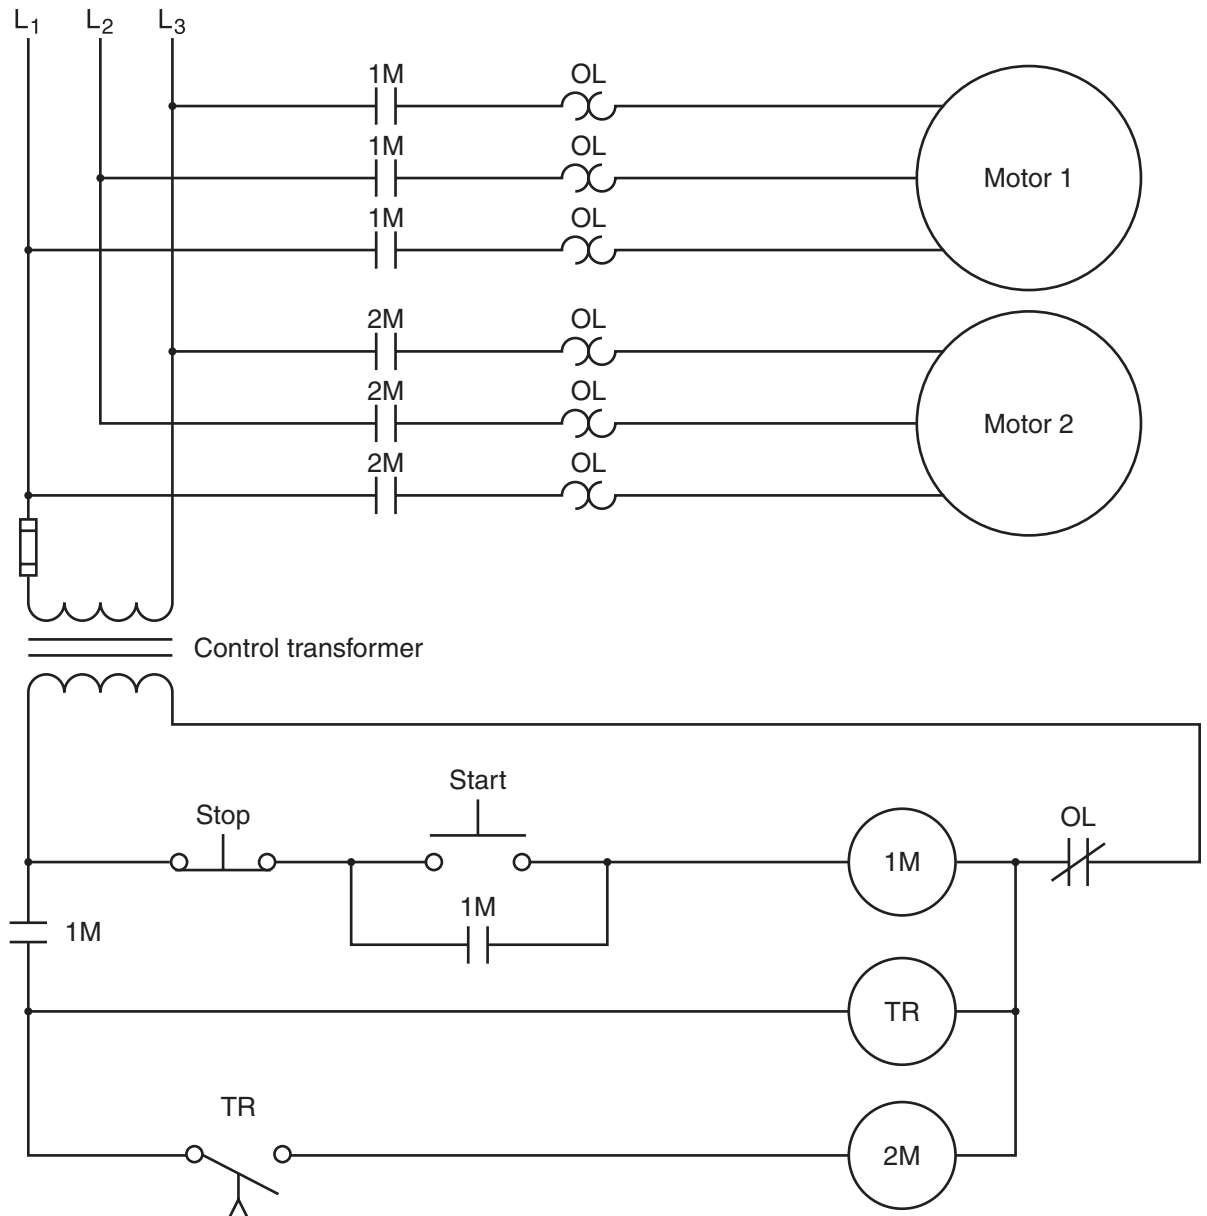
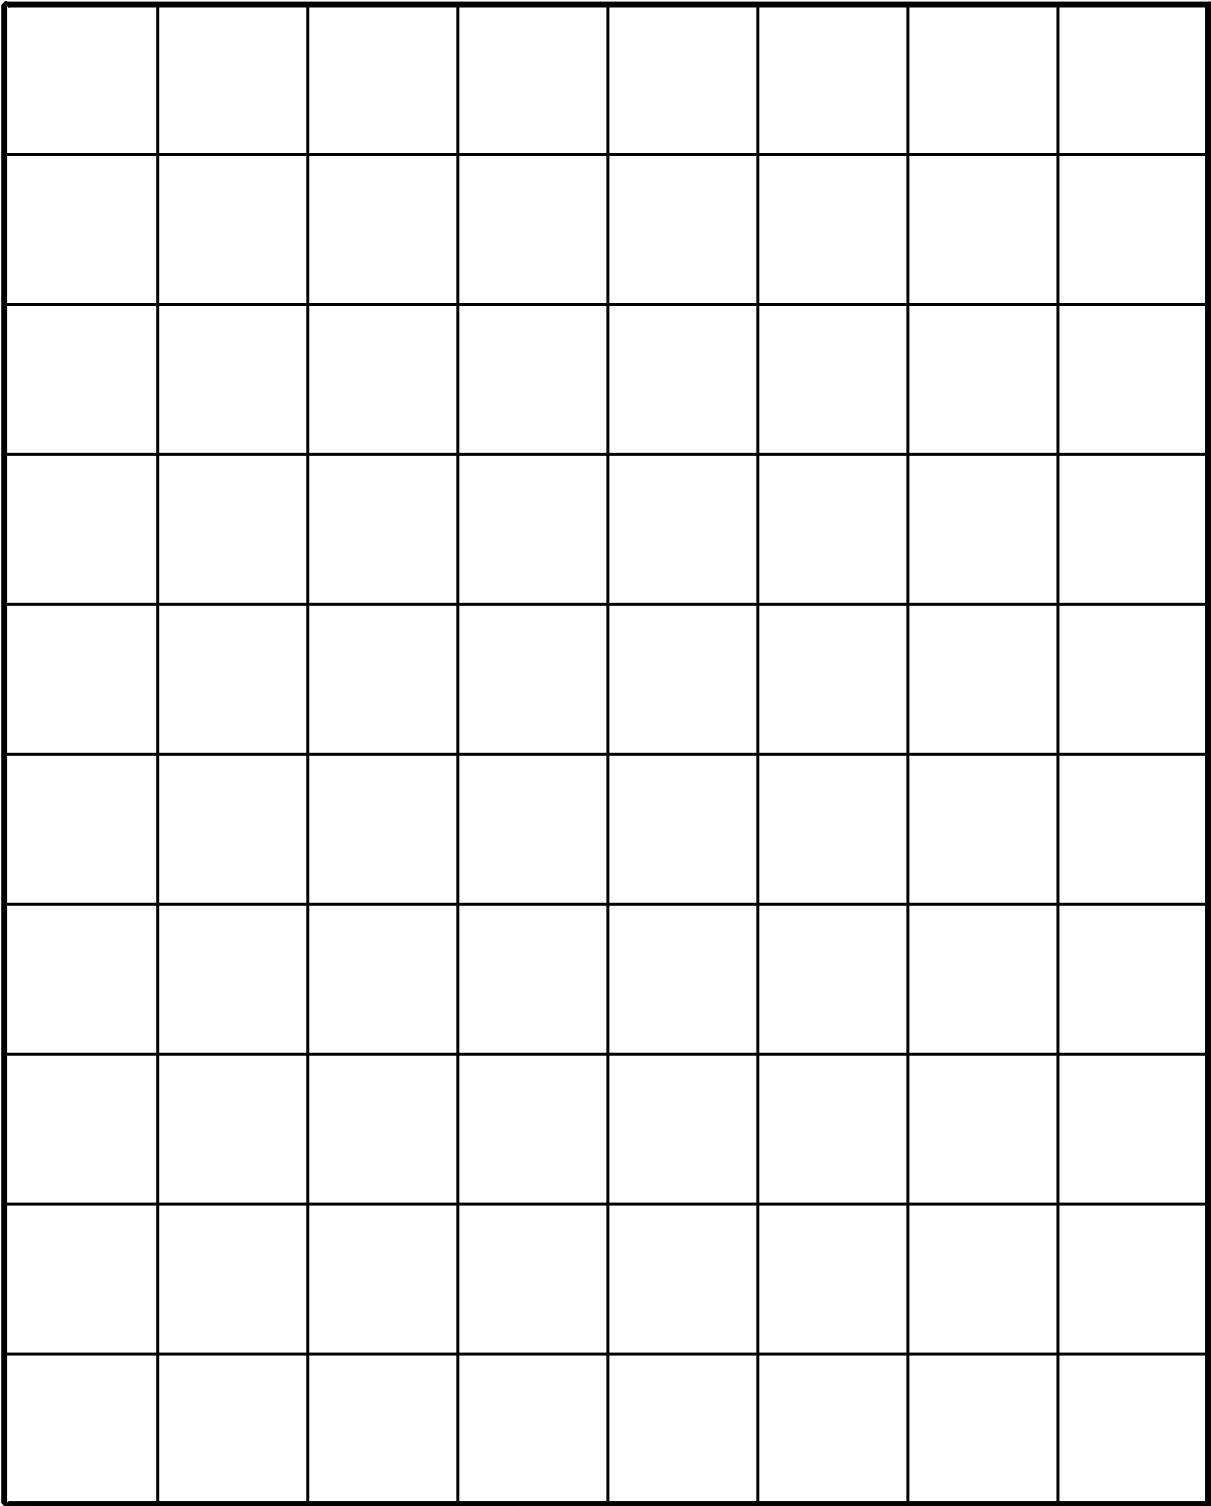

Figure 31-6 Motor 2 starts after motor 1.
Figure 31-7 Circuit redesign.
1. Using the circuit shown in Figure 31-6, place pin numbers beside the timer coil and normally open contact.
2. Place wire numbers on the circuit in Figure 31-6.
7. Refer to the circuit shown in Figure 31-6. Assume that it is necessary to stop the operation of both motors after the second motor has been operating for a period of 10 seconds. Using the space provided in Figure 31-7, redraw the circuit to turn off both motors after the second motor has been in operation for 10 seconds. (Note: It will be necessary to use a second timer.)